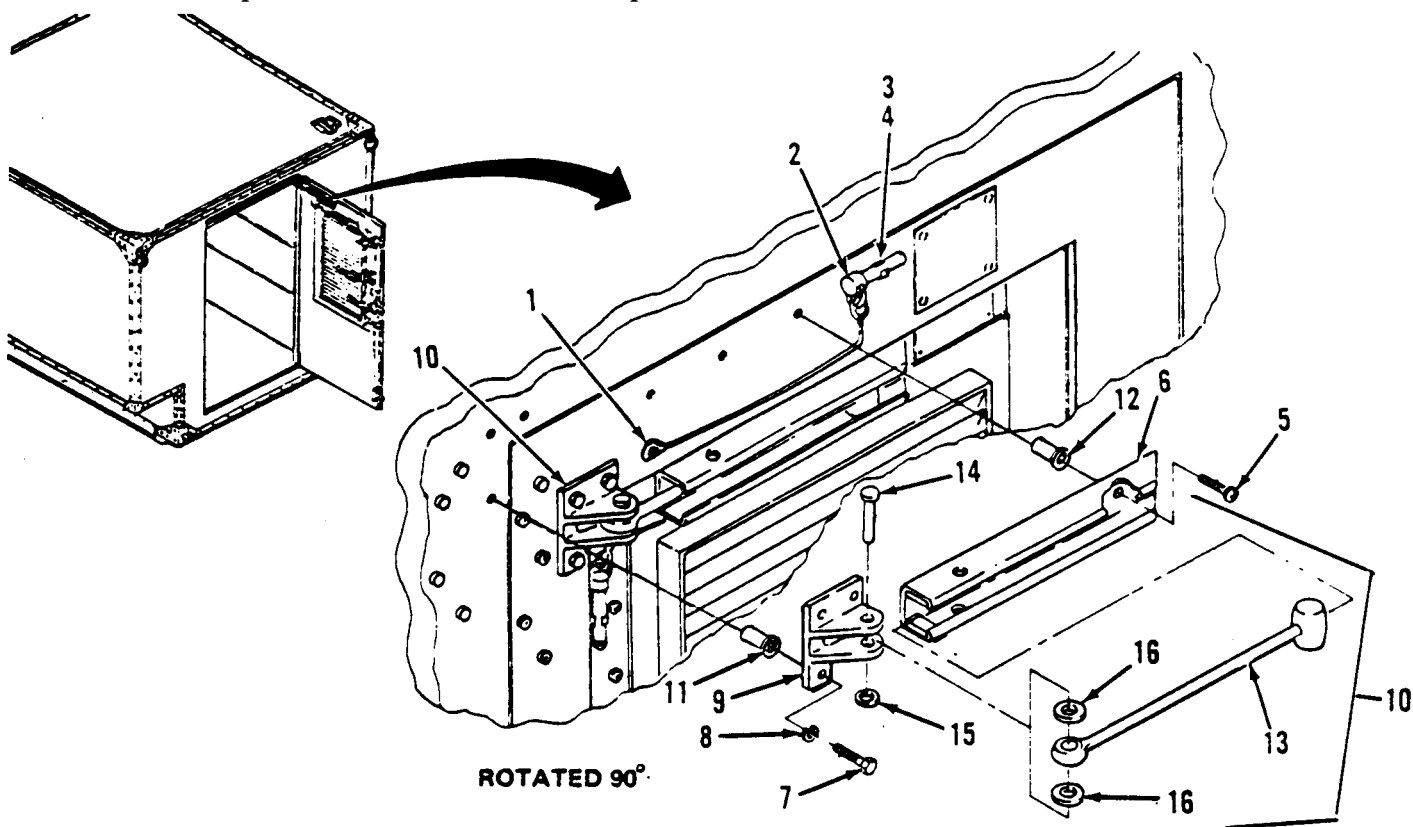

Figure 3-34. Door Stay Assembly Repair and Replacement.
a. Inspect. (Figure 3-34)
- (1) Inspect for missing or damage hardware.
- (2) Inspect for wear, dents, or other damage.
- (3) Inspect that rod (13) moves freely.
- (4) Inspect for secured or damaged detent pin (2).
b. Remove. (Figure 3-34)
- (1) Drill out rivet (1) attaching lanyard tab of detent pin (2) and remove detent pin.
- (2) Drill out two rivets (3) attaching spring tension clip (4) and remove clip (4).
- (3) Push door open and remove and retain three phillips head screws (5) attaching door stay channel (6) to door panel (outer or inner door).
- (4) Remove and retain three hex-head screws (7) and lock washers (8) attaching door stay bracket (9) to panel (shelter or inner door), and remove door stay assembly (10).
- (5) Inspect condition of rivnuts (11 and 12) and replace if necessary (paragraph 3-9.b).
c. Disassemble. (Figure 3-34)
- (1) Push channel assembly (6) out of door stay rod (13).
- (2) Grind off end of pin (14) and remove flat washer (15).
- (3) Remove pin (14) to release door stay rod (13) and two flat washers (16) from bracket (9).
e. Assemble. (Figure 3-34)
- (1) Position two flat washers (16) and door stay rod (13) in place inside bracket (9) end secure in place with pin (14).
- (2) Push flat washer (15) in place from bottom of pin (14), and peen end of pin (14) over to hold washer (15).
- (3) Slide rod end (13) into channel assembly (6).
f. Install. (Figure 3-34)
- (1) Position channel assembly (6) on door panel (outer or inner door) and secure to panel with three phillips head screws (5) after dipping screws in sealer.
- (2) Position bracket (9) in place on panel (shelter or outer door panel) and secure with three hex-head screws (7) dipped in sealer, and three lock washers (8).
- (3) Position spring tension clip (4) and secure to panel with two rivets (3) dipped in
- (4) With a rivet (1) dipped in sealer, attach lanyard tab of detent pin (2) to door panel (outer or inner door panel).